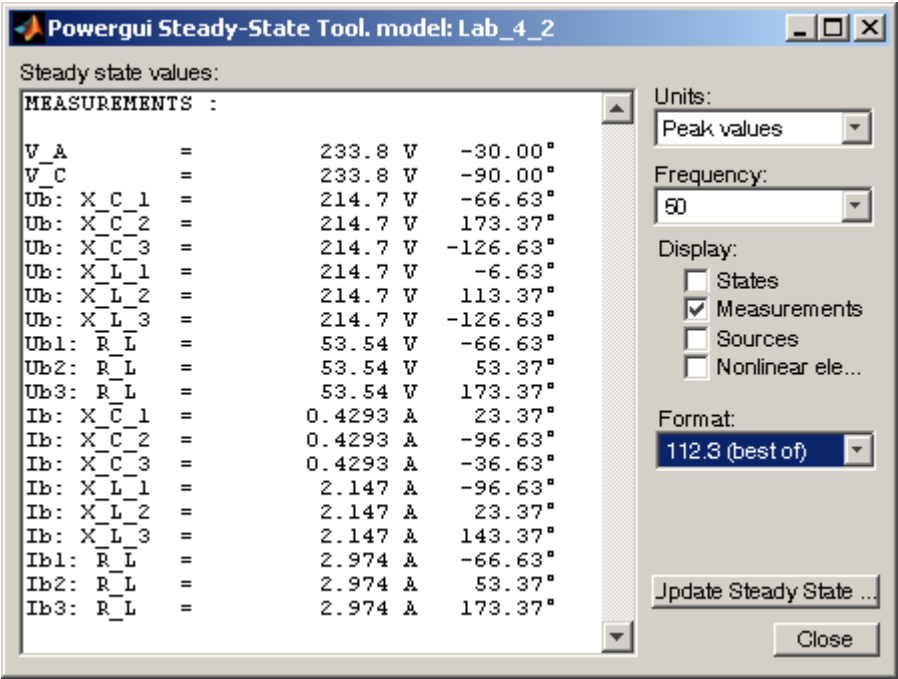

Fig. 8.3. POWERGUI window with voltage values on circuit elements and currents in their three-phase circuit and phase shift on them
5. Simulate the composite model of the circuit before the accident and record the simulation results (values of voltage on the circuit elements and currents in their three-phase circuit and phase shift on them, as well as evidence of active and reactive power between phases) from the block "powergui" (Fig. 8.3) in table 8.2 - 8.4.